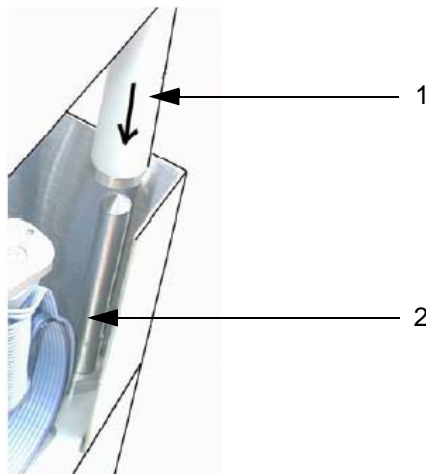

Figure 5-6: Cassette Removal
- 3 Hold the recessed handles and extract the cassette away from the printer body, as shown in Figure 5-6 on page 5-5.